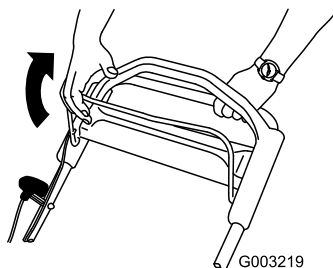

Figure 13
1. Pull the blade-control bar to the handle (Figure 13).